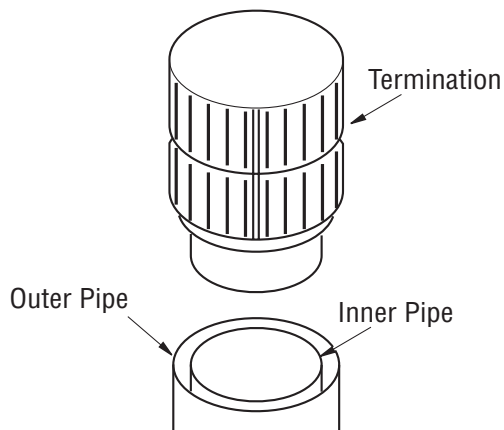
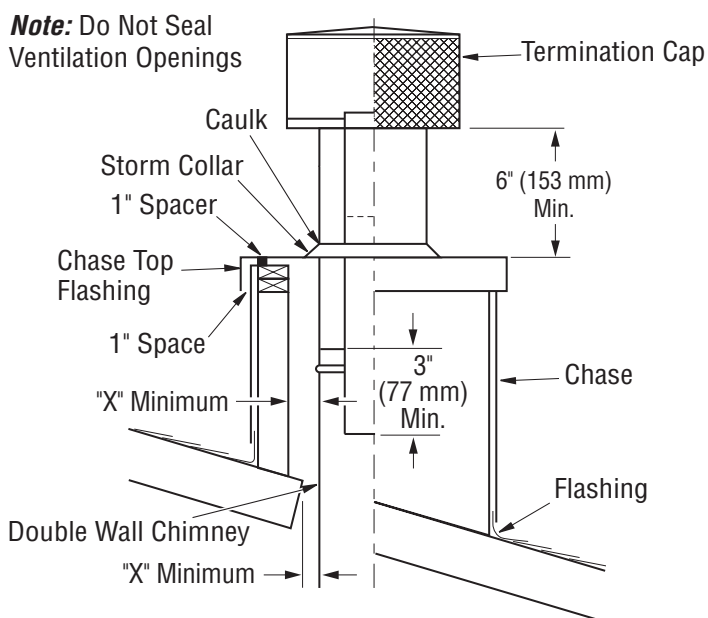

Figure 30 - Installing Termination Cap
Figure 31 - Chase Installation
- Place termination cap over opening. Slip stainless steel inner pipe of termination into inner stainless steel chimney section (see Figure 30). Place galvanized steel over chimney outlet (see Figure 31).
- Attach storm collar where chimney pierces opening in flashing. Caulk where storm collar touches outer chimney pipe (see Figure 31).